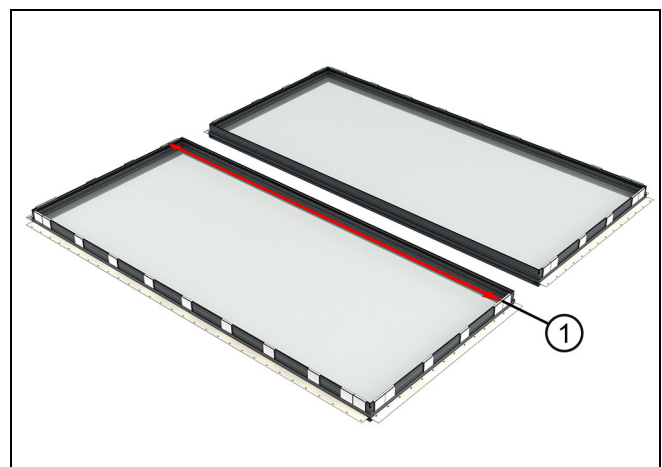

Figure 70
1. Calculate the length of tube steel for the mull by taking the outside measurement of the frame and subtract 1/8" (3). Cut the steel to this dimension. See Figure 70.